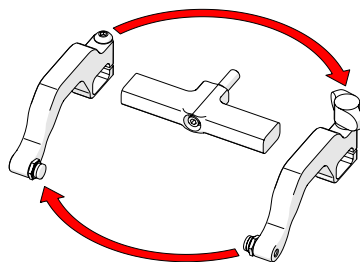

Fig. 202 - Reverse position around yoke
4. Position removed arms to opposite sides of the yoke (*Fig. 202*).